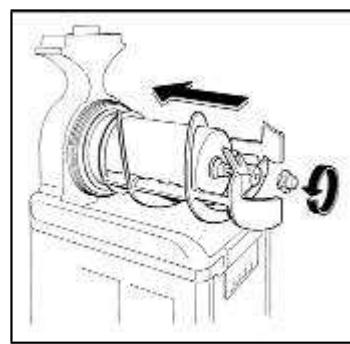

Рис. 36
- Block all these components into place by turning the knob in counter clockwise direction (Рис.36).